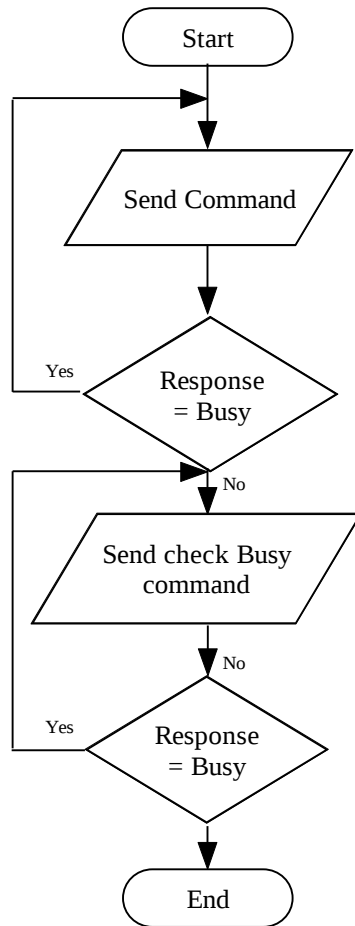

Figure 1
Each of these commands is described in the following sections. The interface uses a simple single instruction, processing scheme in which each command must be completed before the next can be processed. This is accomplished with a busy indicator. The busy indicator may be read through the busy command (15) and will be returned on any command attempted while the interface is busy. The busy response is defined as hex 7FFF. If at any time a read or write is performed, the busy string is returned the interface is busy and will have ignored the incoming information. The basic algorithm for accessing the DPA is shown in figure 1.